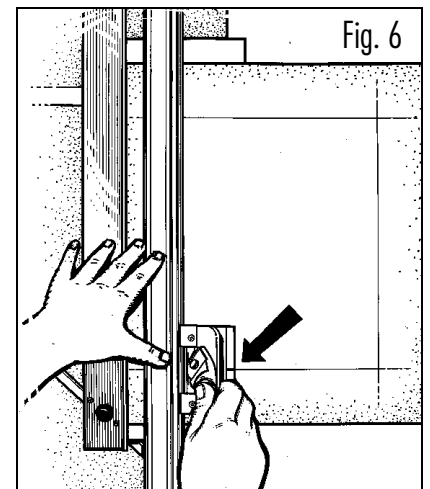

Fig. 6
- 5 Place bevel cutter over guiderail edge and adjust silver line with bottom pencil line. (Fig. 6)